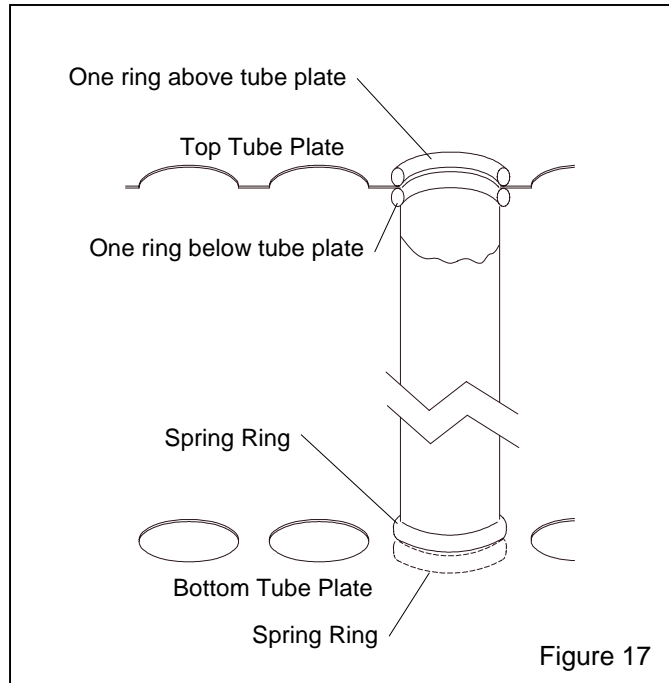

Figure 17
7.6.1 Replace damaged filters immediately. Remove the old filters by pulling the spring rings off the bottom and top tube plates. Working from the back to the front, install one filter at a time. To install new filters, form the end of the spring ringed tubular filter into a shallow "c" shape, push the filter far enough into the hole of the top plate to allow one spring ring to snap into place above the tube plate and the other to snap into place below it. See the illustration in Figure 17.